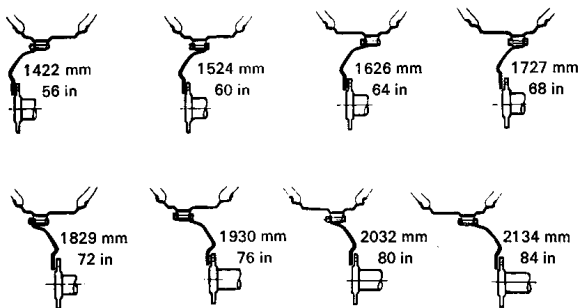

FIG. 32
1. Fig. 32. Select the required track setting.